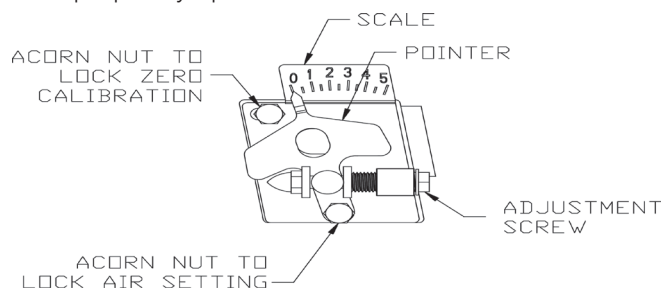

Figure 36: Head/Air Adjustment Plate Assembly
- Loosening the splined nut and lower acorn nut, and, turning the adjustment screw, either forward or, rearwards, will adjust the head/air plate. DO NOT LOOSEN UPPER LEFT ACORN NUT, which locks zero head/air setting. See Figure 36.
- a. Move the Head/Air Setting forward or back one position at a time to optimize the smoke and CO₂ readings. See Figure 36.